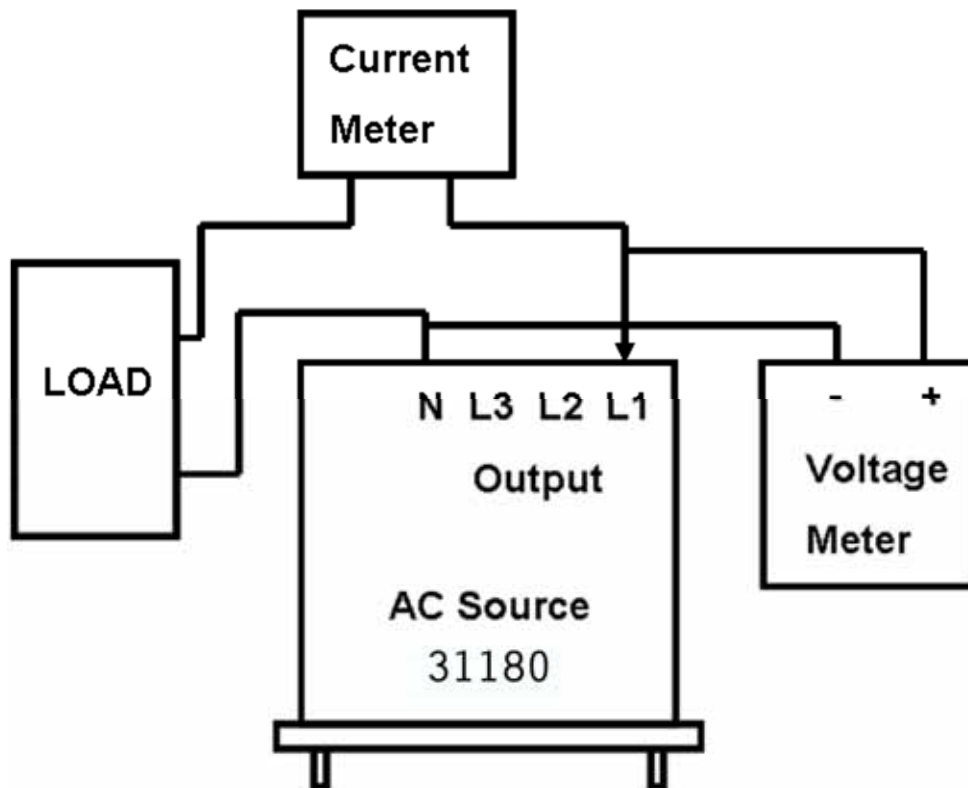

Figure 4-1
The AC Source has a simple procedure built in to calibrate the output and measure the accuracy without opening the chassis. Users simply need to follow the procedure step by step for operation. A voltage meter, current meter and an adequate load with a +5V DC power supply are required to perform the calibration. For the connections of these instruments please refer to Figure 4-1. There are 3 items required for calibration: output voltage, output current and external reference voltage. However, they don't need to be calibrated at the same time. Select one of them for calibration is needed.
1. The Vdc offset can be positive or negative. Connect the positive terminal of DVM to the AC Source's Line output and the negative terminal to the AC Source's Neutral output as shown in Figure 4-1.